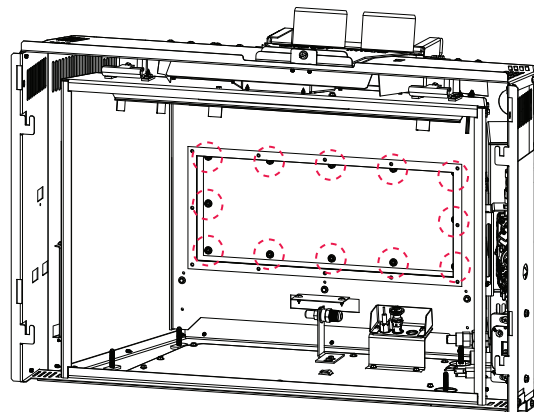

Fig. 8-5
- E. Remove the second access panel by removing the 12 screws (**Fig. 8-5**).